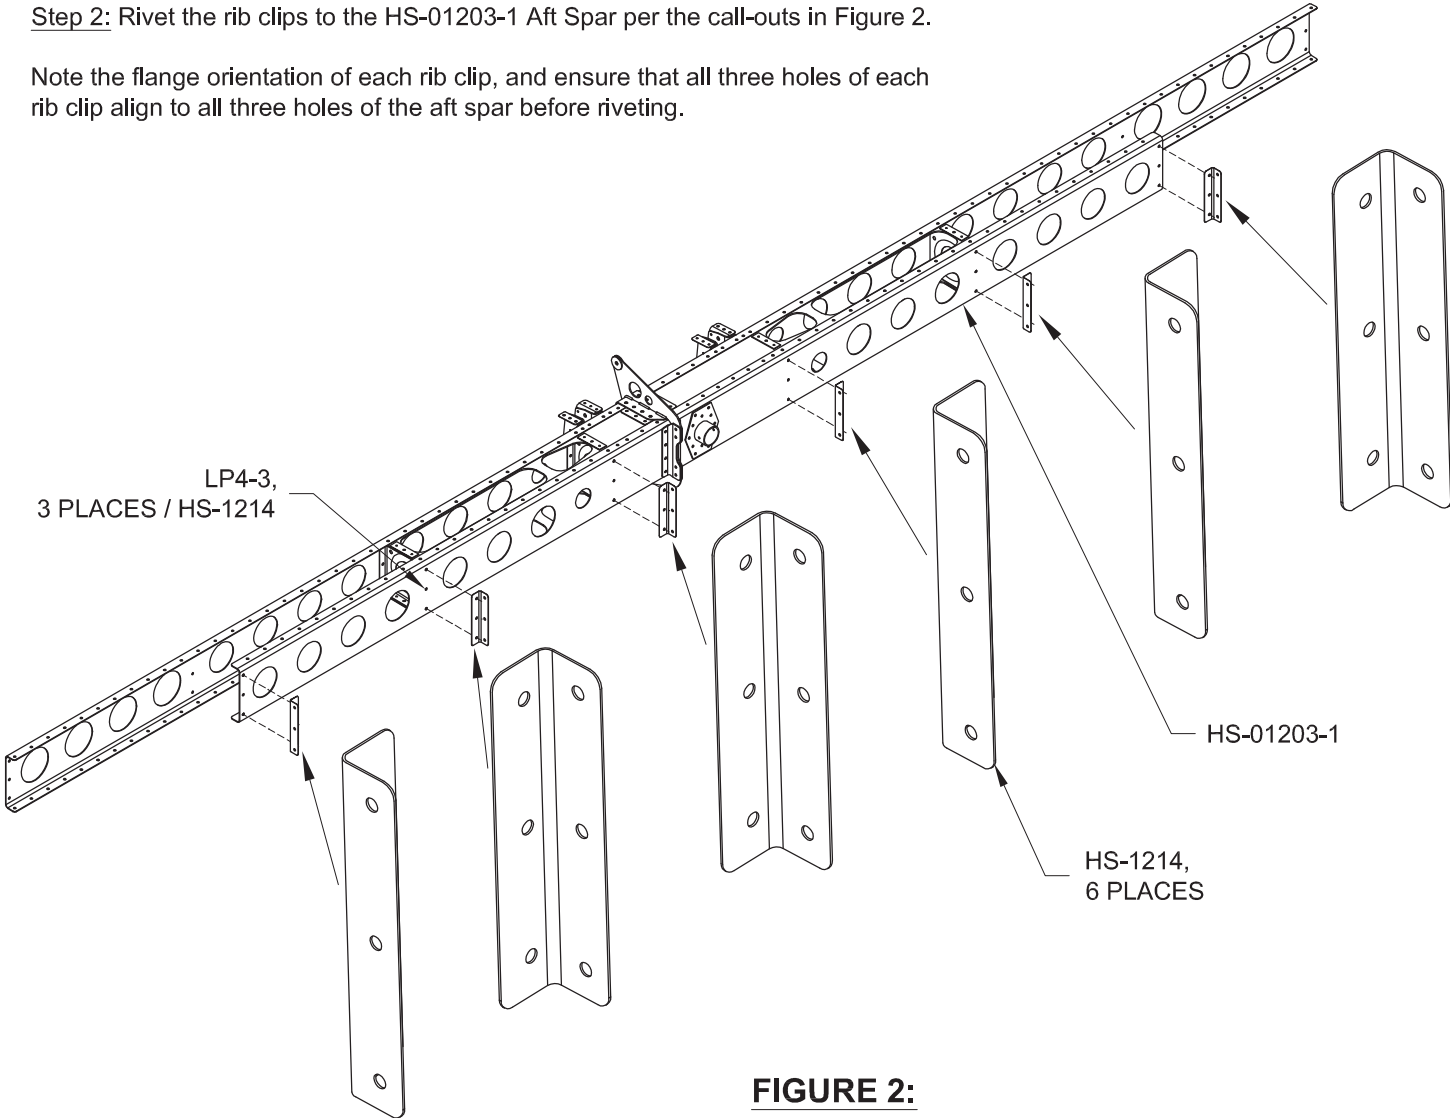

FIGURE 2:
Step 2: Rivet the rib clips to the HS-01203-1 Aft Spar per the call-outs in Figure 2.